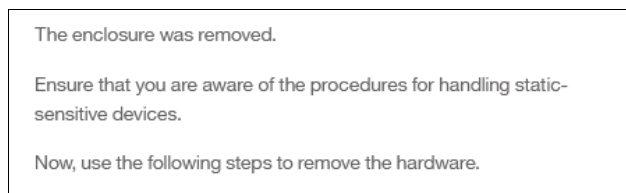

Figure 4-119 Enclosure removed
3. After the enclosure is logically removed from the system (set to the *Unmanaged* state), the system reminds you about the steps that are necessary for physical removal, such as power off, uncabling, dismantling from the rack, and secure handling (see Figure 4-119).